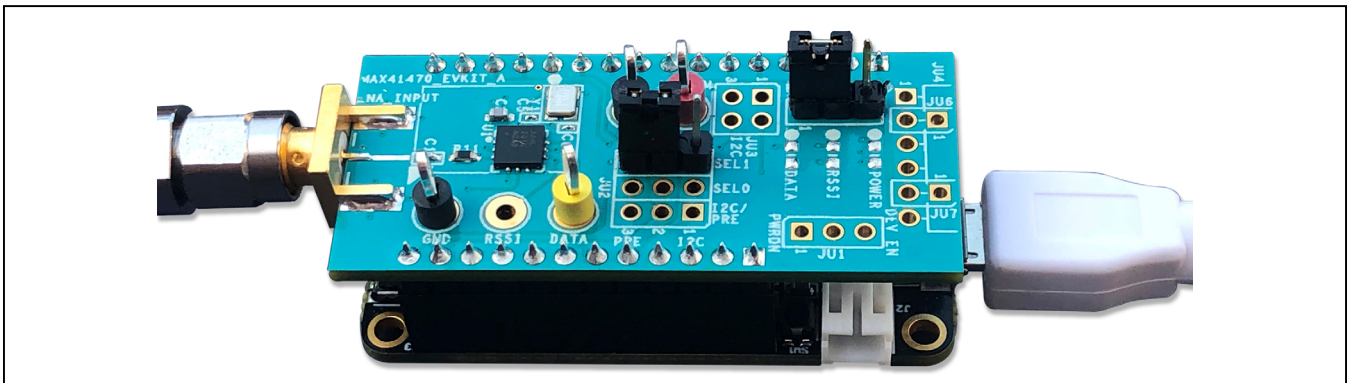

Figure 2. MAX4147X EV Kit Orientation to FTHR Board
- 2) Connect the MAX41470 EV kit to the FTHR board, making certain that the USB connector is oriented on the opposite side of the SMA connector, as shown in Figure 2.